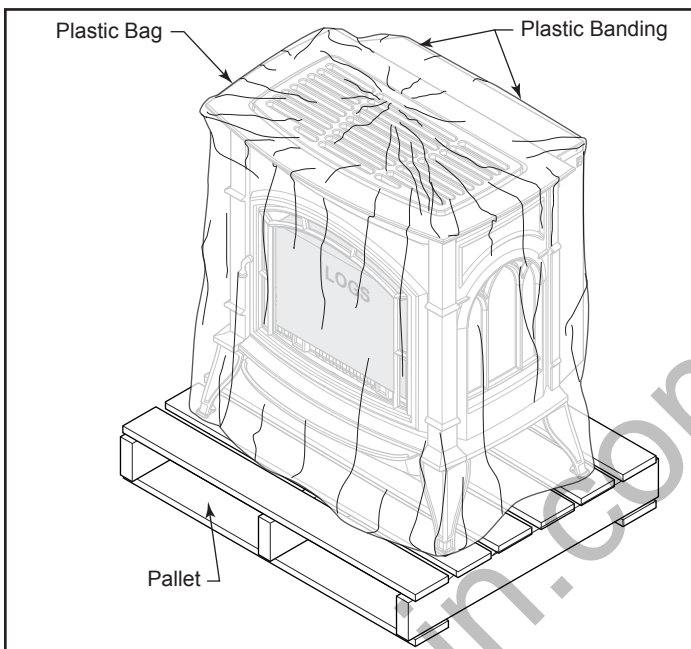

Figure 6 - Remove plastic bag from unit
1. Remove plastic bag from unit. Figure 6.